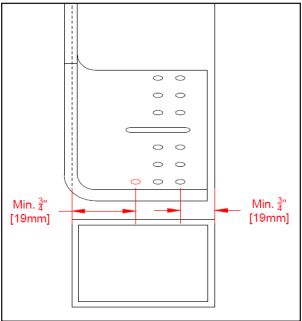
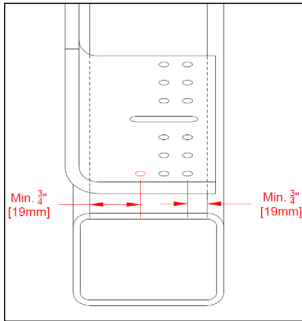
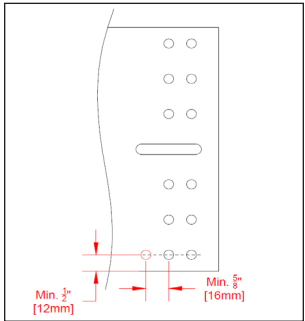

Figure 6: Offset from Square Edge
Figure 7: Offset from Round Edge
Figure 8: Offset from Hole and Edge
2. Determine the new hole locations based on the design requirements shown in **Figure 6**, **Figure 7**, and **Figure 8**.